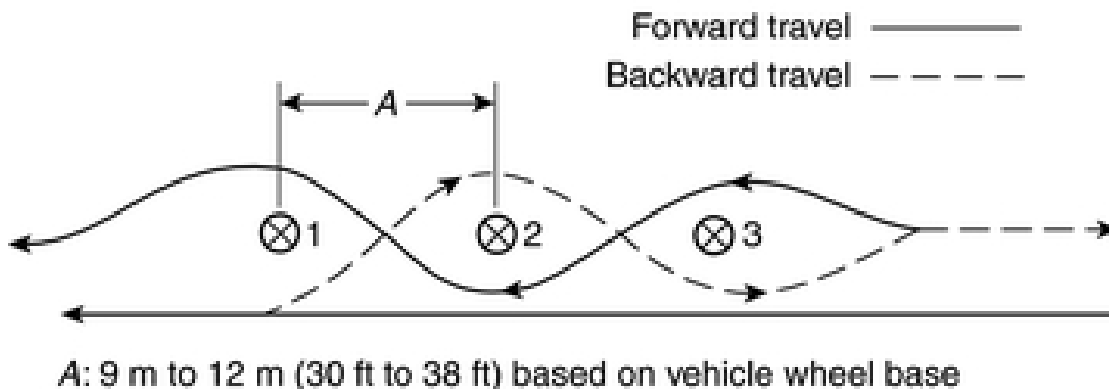

FIGURE A.4.3.3 Serpentine Exercise.
A.4.3.3 The serpentine exercise can be used as practice for meeting or in the evaluation of this requirement. This exercise measures a driver's ability to steer the apparatus in close limits without stopping. The exercise should be conducted with the apparatus moving first backward, then forward. The course or path of travel for this exercise can be established by placing a minimum of three markers, each spaced between 9 m (30 ft) and 12 m (38 ft) apart, in a line. The spacing of the markers should be based on the wheel base of the vehicle used. Adequate space must be provided on each side of the markers for the apparatus to move freely. The driver should drive the apparatus along the left side of the markers in a straight line and stop just beyond the last marker. The driver then should begin the exercise by backing the apparatus between the markers by passing to the left of marker No. 1, to the right of marker No. 2, and to the left of marker No. 3. At this point, the driver should stop the vehicle and then drive it forward between the markers by passing to the right of marker No. 3, to the left of marker No. 2, and to the right of marker No. 1. (See Figure A.4.3.3.)